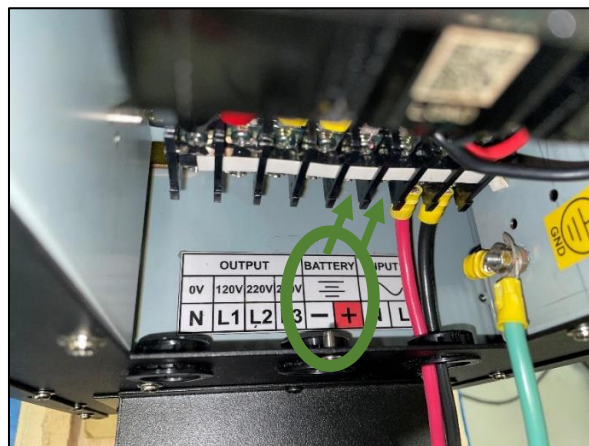

Figure 4—Terminal Block in back of Q-MS with Battery terminals indicated
1. **In the back of the Q-MS**, locate the labeled NEGATIVE (-) and POSITIVE (+) battery terminals (**Figure 4**)